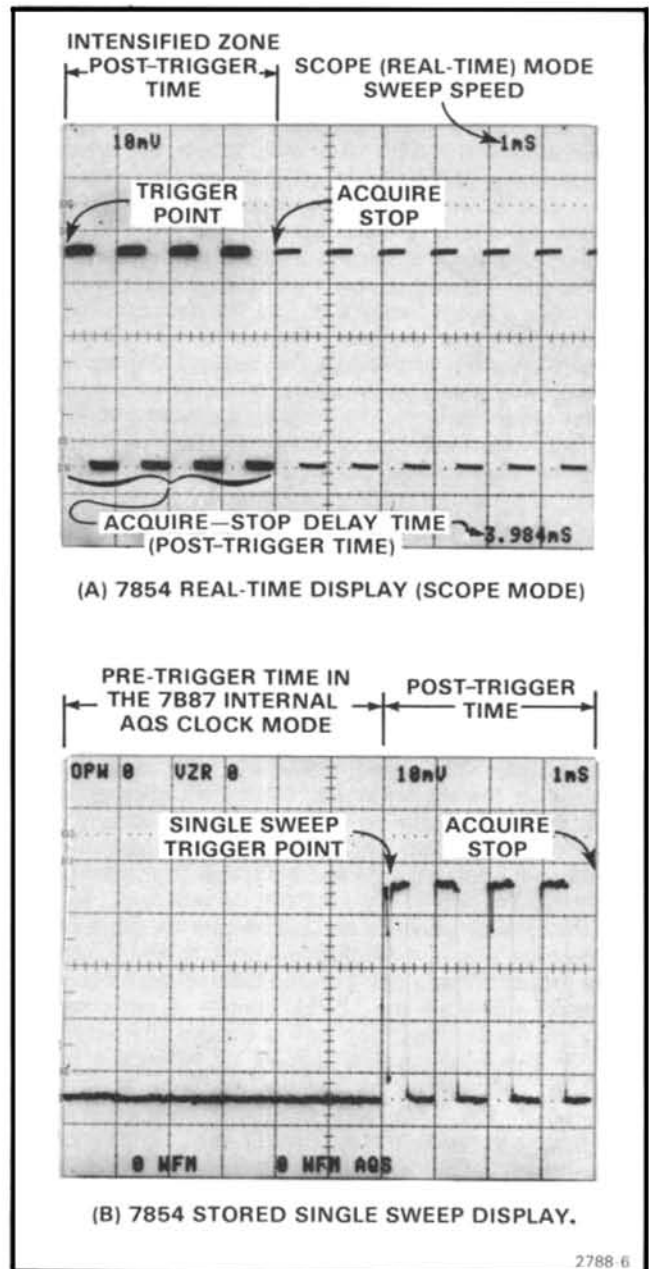

Figure 1-3. Single Sweep Acquisition.
8. Rotate the ACQUIRE-STOP DELAY control until the delay-time readout is approximately 4 ms. Notice that the first four divisions of squarewave display are intensified. The 4 ms intensified display relates to four divisions of post-trigger in the subsequent single-sweep display. Therefore, the remaining 6 divisions in the subsequent display would be pre-trigger (see Fig. 1-3).
The ACQUIRE-STOP DELAY control varies the allocation of pretrigger and post-trigger time in the subsequent stored single-sweep display. The post-trigger portion is intensified in the real-time display and the exact time is displayed by CRT readout (see Fig. 1-3).
occurs (pretrigger—see Fig. 1-3). The exact amount of the post-trigger display is indicated by the CRT readout. Then, without changing other triggering controls, select the single-sweep mode by pressing the SINGLE SWP RESET pushbutton. Set the 7854 to the Stored CRT Display mode and to the AQS (acquire single-shot) WFM Acquisition mode. When the AQS button is pressed, the 7854 will respond by lighting the "Busy" LED and blanking the entire screen. Arm the single-sweep function by pressing the SINGLE SWP RESET pushbutton again. After the trigger event occurs, the stored waveform will be displayed on screen. A single stored trace is displayed each time the 7854 AQS function is selected and the 7B87 SINGLE SWP RESET pushbutton is pressed.